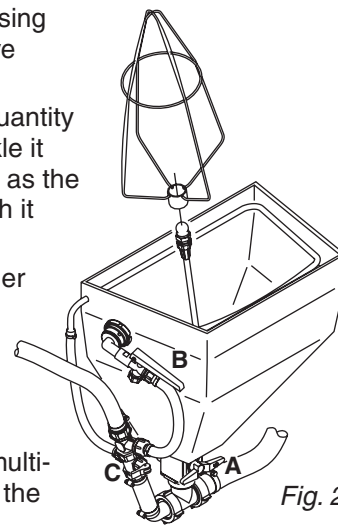

Fig. 27
- 5 Open the bottom valve (**A** Fig 27) on the HARDI® CHEMICAL FILLER and open the lid.
- 6 Engage the hopper rinsing device by opening valve (**C** Fig 27).
- 8 If the chemical container is empty, it can be rinsed by using the Bag & Bottle Rinse (optional). Fit the bag bracket and place the powder bag over the multi-hole nozzle and press the lever (**B** Fig 27).
**WARNING!** Do not press lever (**B** Fig 27) unless the multi-hole nozzle is covered by a container to avoid spray liquid hitting the operator.
- 9 Close valve (C Fig 27) again when the hopper is rinsed.
- 10 Close valve (A Fig 27) and the chemical hopper lid. Turn the Select Function handle to SPRAY MAX AGITATION to mix the chemicals in the main tank. When the spray liquid is well mixed, it may be sprayed on the crop. Leave the Select Function handle pointing to the SPRAY MAX AGITATION arrow and the Variable Agitation handle pointing down so the spray liquid is continuously agitated while spraying.